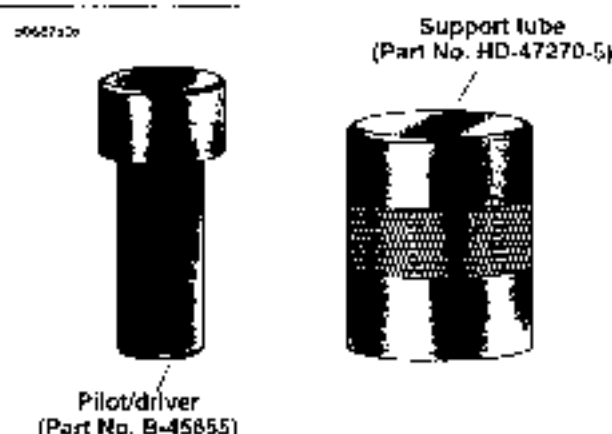

Figure 3-157. Left Crankshaft (Roller) Bearing REMOVAL/INSTALL Tools
4. See Figure 3-157. Obtain CRANKSHAFT (ROLLER) BEARING REMOVAL/INSTALL SUPPORT TUBE (Part No. HD-47270-5) and CRANKSHAFT (ROLLER) BEARING REMOVAL/INSTALL PILOT/DRIVER (Part No. B-45655).
1. See Figure 3-157. Obtain CRANKSHAFT (ROLLER) BEARING REMOVAL/INSTALL SUPPORT TUBE (Part No. HD 42720 5) and CRANKSHAFT (ROLLER) BEARING REMOVAL/INSTALL PILOT/DRIVER (Part No. B-45655).